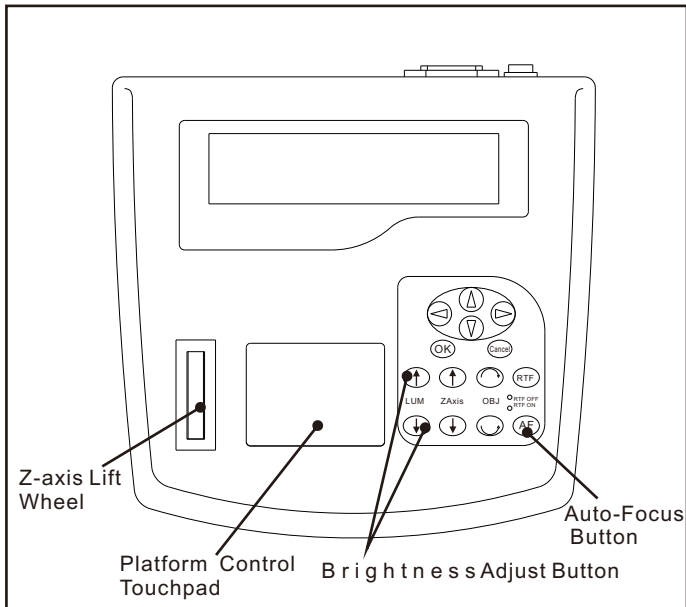
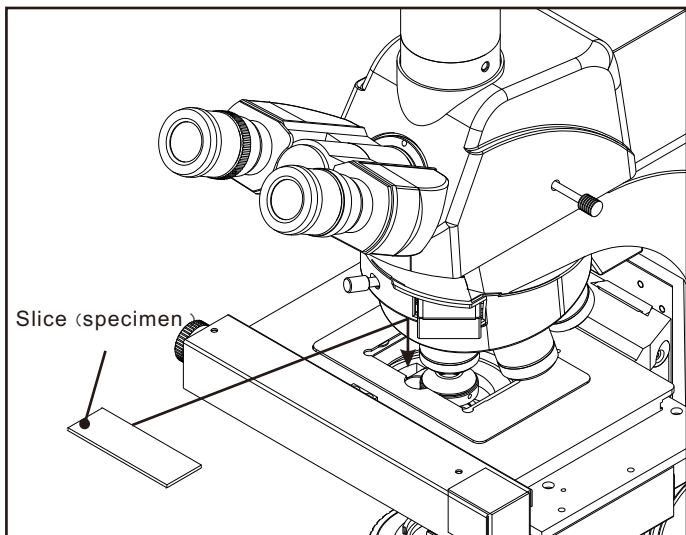

fig. 17
fig. 19
8. Slide on the platform control touchpad gently, control the platform to move, let the specimen go to the desired position. (see Figure 17).
9. Press the auto-focus button to focus automatically (see Figure 17).
Press the "brightness adjustment button" gently: "↑" to make light brighter and "↓" to make light dim. please adjust the light to an appropriate brightness. (Figure 17).
After the initialization, the specimen holder should be in the center of the optical path or nearby. If not find in the center, or place the specimen inconveniently, please slide the "platform control touchpad" (see Figure 17) and scroll "Z-axis scroll down" (see Figure 17) to move the holder into a suitable position,then input the specimen (see Figure 19).